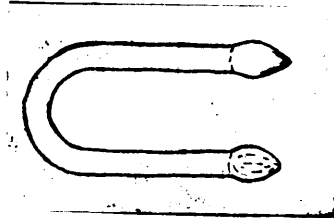

Figure 2.
5. Scarf the ends as shown in (Figure 2). One side must be scarfed to the right and the other side must be scarfed to the left. (Figure 2).